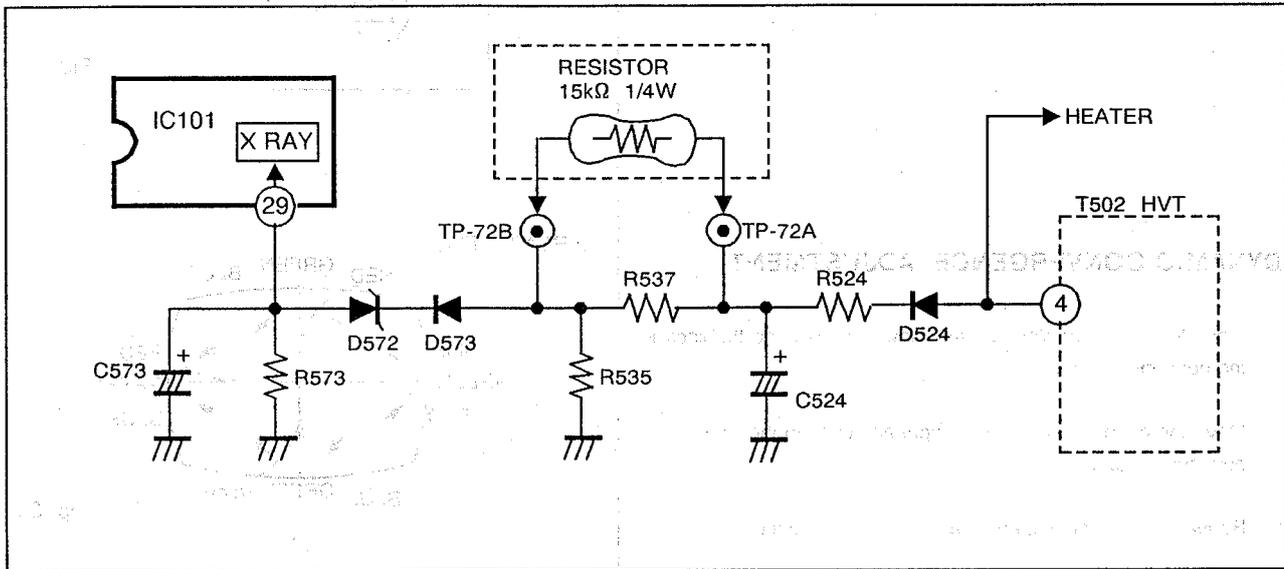

Fig. 1
- (1) Make sure that the power SW is at OFF.
- (2) As shown in Fig. 1, set the resistor (between TP-72A and TP-72B).
- (3) Turn the power SW ON.
- (4) Make sure that the screen picture disappears.
- (5) Turn the power SW OFF.
- (6) Remove the resistor between TP-72A and TP-72B.